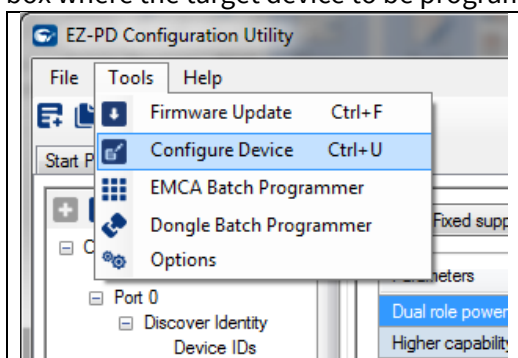

Figure 19 Select Configure Device Menu
4. Select **Tools > Configure Device** as shown in **Figure 19**. This brings up the Configure Device Dialog box where the target device to be programmed can be selected.